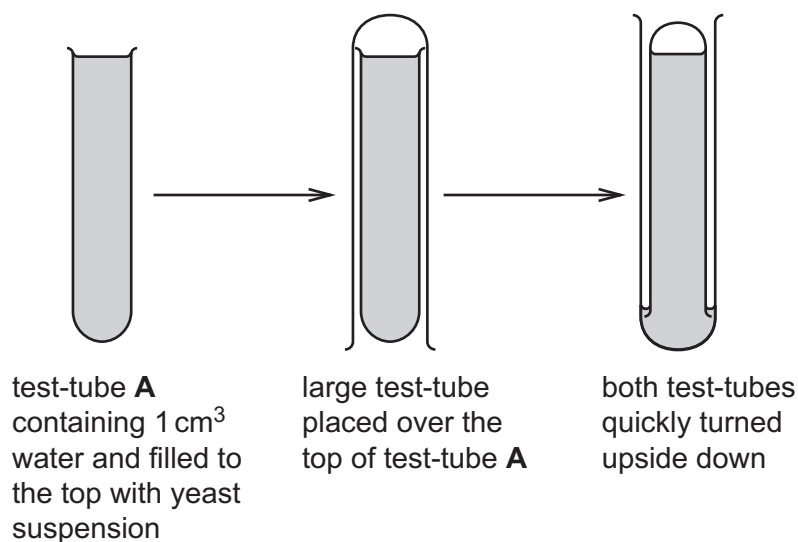

Fig. 1.1
- Step 9** Place a large test-tube (boiling tube) over the top of test-tube **A** and quickly turn both test-tubes upside down as shown in Fig. 1.1.